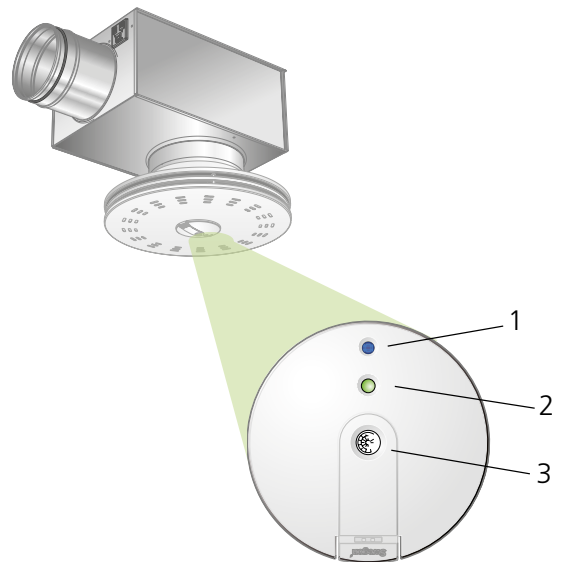

Figure 1. The sensor module of ADAPT Sphere with connection for TUNE Adapt.
- Inside the air diffuser, is a controller providing all the required set points and control functions as well as a multi-functional sensor module, see figure 1.